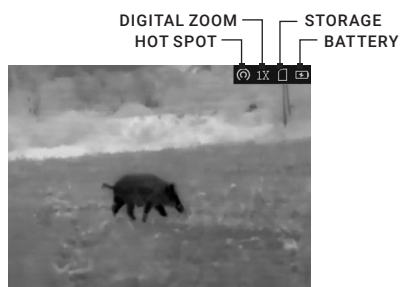

FIGURE 2-3. THE DISPLAY MAIN VIEW
1. Unlock the clamping device of the scope mount by pushing down on the lever holders (A) and unlocking the levers (B).
2. Install the scope on the Picatinny/ Weaver rail so that the stops (C, see Figure 2-3) slides into the transverse slots on the rail.
3. Affix the scope to the rail by locking the levers (B).